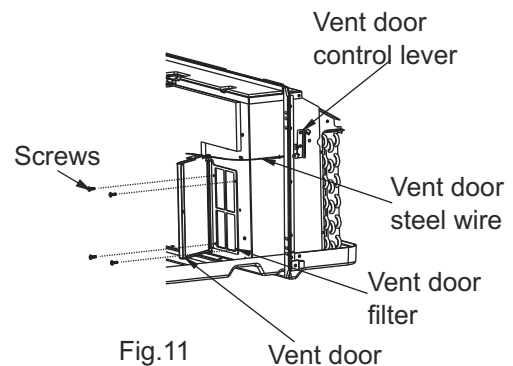

Fig.11
- Remove four screws from the vent door filter. (See Fig.11)
- First pull out the vent door steel wire from the hole of the vent door, then take off the vent door and filter. (See Fig.11)